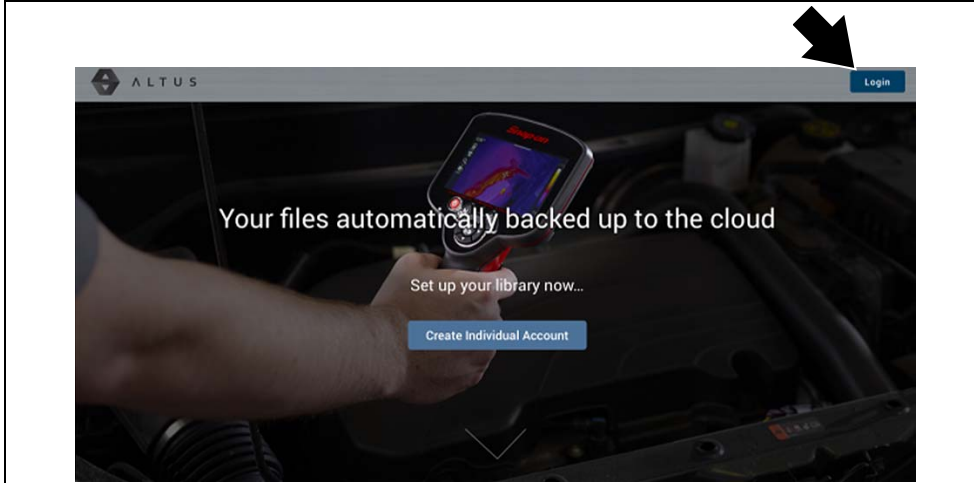

Figure 12-3
2. Select the **Login** icon (*Figure 12-3*).